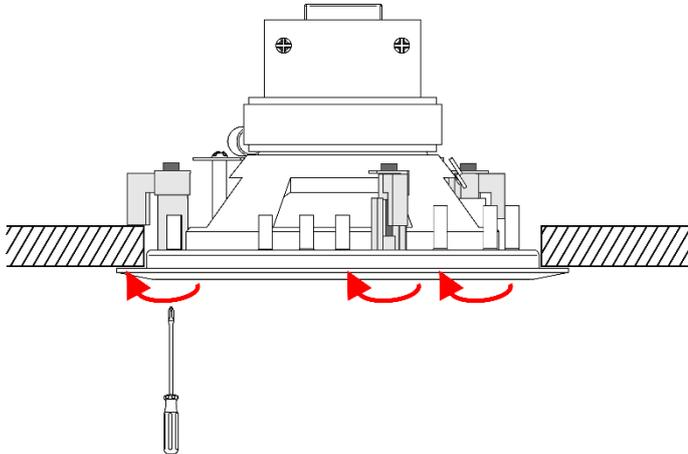

Fig. 07
- 10) Insert the speaker into the mounting hole. Make sure the flange of the **mounting frame (01)** is flush on the ceiling.
- 11) Use a Phillips 2 screwdriver to turn the **quick-turn screws (03)** slowly clockwise, as shown on Fig. 07. The **quick-turn screws (03)** will release the **mounting clamps (04)** and they will press the speaker against the ceiling, securing it into position.